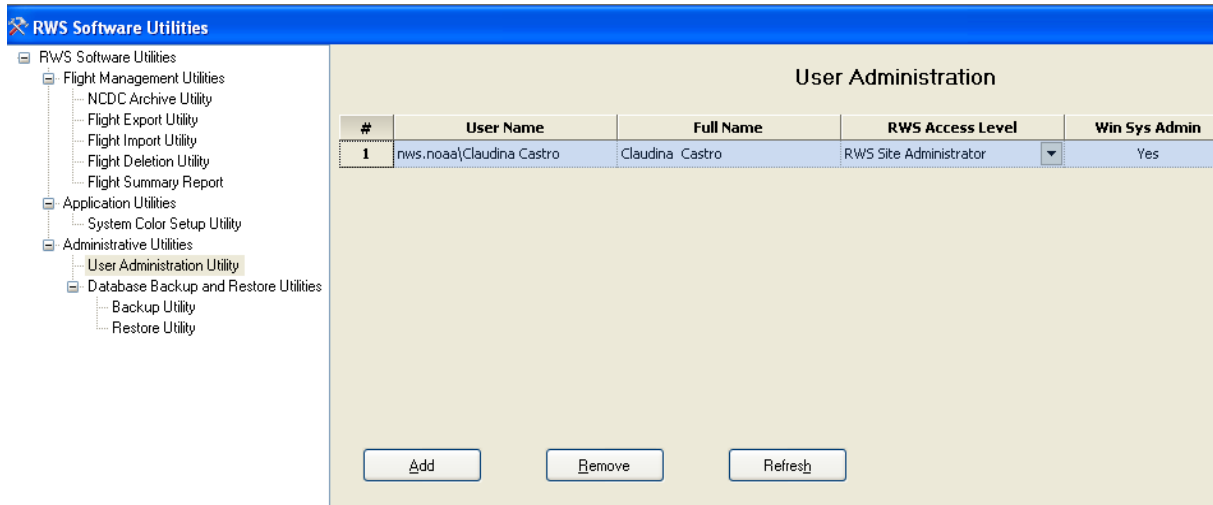

Figure B-25: User Administration Window (Example Only)
2. Select **Administrative Utilities** and **User Administrative Utility** to open the *User Administration* window (Figure B-25).